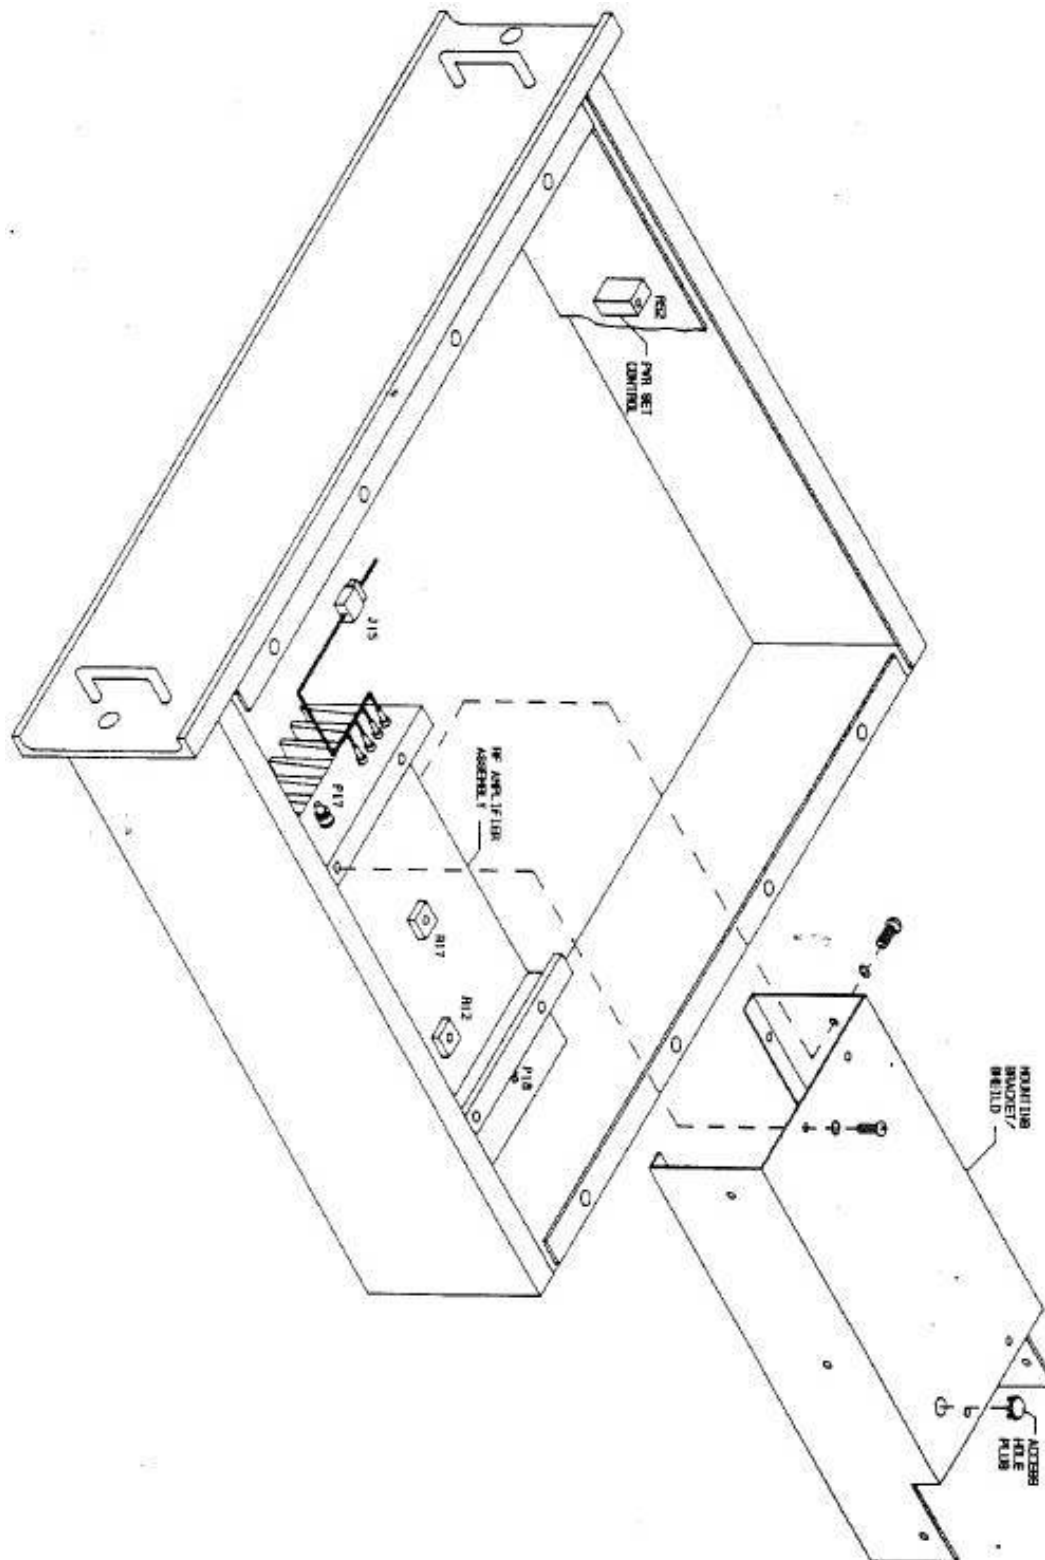

Figure 5-11 RF Amplifier Circuit Board Controls.
- b. Remove the exciter top-cover and the access hole plug at the top and rear of the RF amplifier assembly (refer to Figure 5-11).
- f. Refer to Figure 5-11 and adjust R12 for minimum reflected power as indicated on the front-panel meter.
- c. Refer to Figure 5-11 and remove the 10 screws securing the RF amplifier assembly to the mounting bracket/shield.
- d. Refer to Figure 5-11 and position the RF amplifier assembly in the chassis as shown.
- e. Refer to Figure 5-11 and connect J15 to P15 of the RF amplifier assembly power/control cable.
- f. Refer to Figure 5-11 and connect P18 to J18 on the rear of the RF amplifier assembly.
- j. Refer to Figure 5-11 and adjust PWR SET control R52 on the power supply/control circuit board fully clockwise.
- l. Refer to Figure 5-11 and adjust R17 for 300 milliamps (0.30) as indicated on the front-panel meter.
- m. Refer to Figure 5-11 and connect P17 to the RF amplifier.
- n. Refer to Figure 5-11 and adjust PWR SET control R52 until the meter indicates the value recorded in step H.